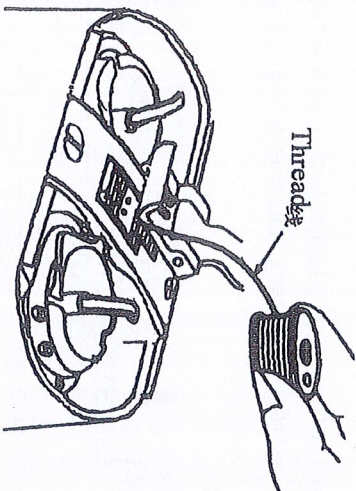

Fig. 6
11、 How to place the Bobbin into the Hook (Fig.6):
Pull the bobbin thread about 5cm, Hold the bobbin as shown in fig.6, then place the bobbin into the hook base.